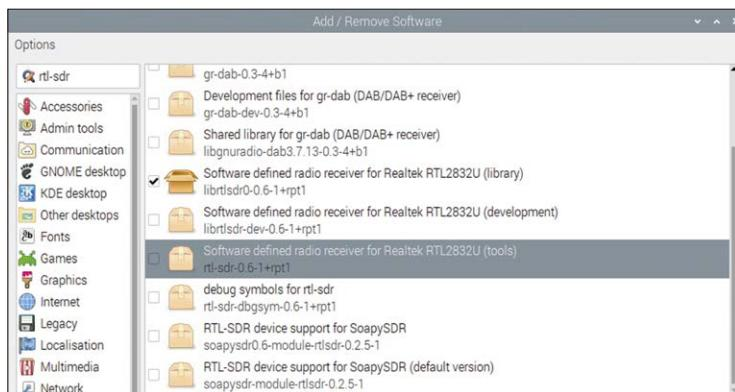

Figure 24.5: Select SDR software.
- Wait until a list of software are listed. Select **Software defined radio receiver for RealtekRTL2832U (tools)** as shown in Figure 24.5